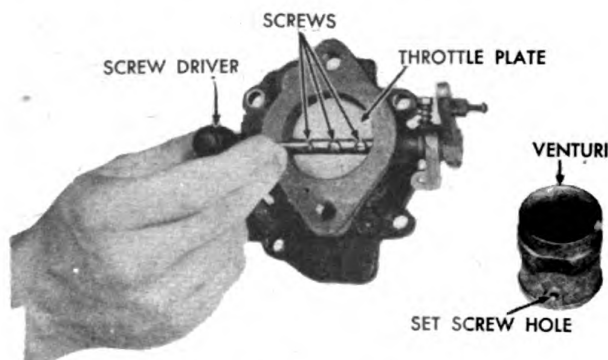

Figure 258. Removing or Installing Throttle Plate Screws.
K. Remove the throttle plate screws and pull out the throttle plate. Figure 258.